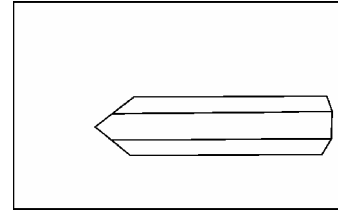

Figure 4.2
3. Use an anvil and a hammer to taper the heated end of the rod. The taper should begin on the chipping tip and end about 2" up the rod, as illustrated in Figure 4.2. The end of the tip should be  $\frac{3}{16}$ " thick.